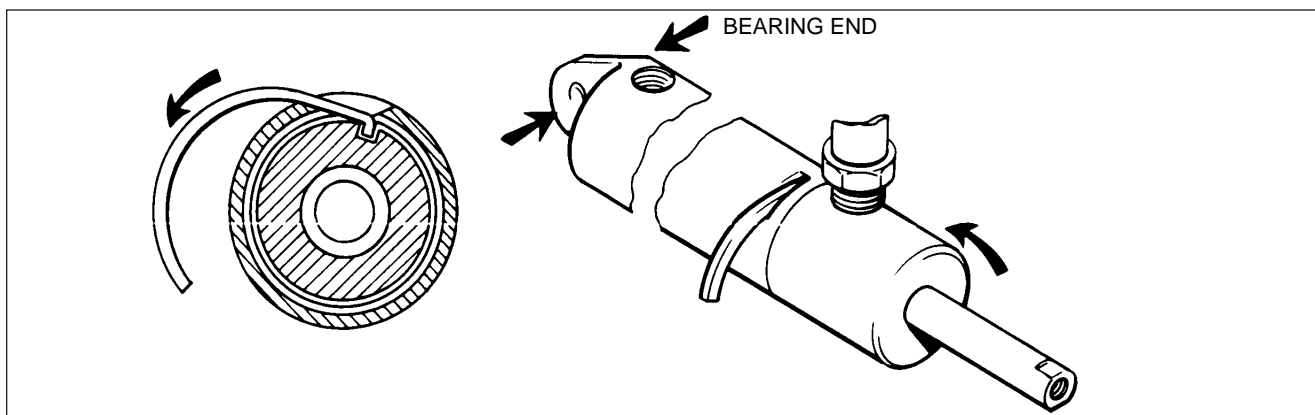

Figure 29-9. End Gland Locking Device
3. Install any 1/8-27 pipe fitting into the port on the end gland. This fitting is used for leverage only and need not be tight. (Refer to figure 29-9.)
4. Rotate end gland counterclockwise (with use of fitting) until end of retainer ring (Figure 29-9) shows in slot of cylinder body. Reverse rotation of gland (clockwise direction) allowing retainer ring to move out of slot. (It may be necessary to give the ring an assist in starting out of the slot. If so, insert a strong wire pick or other suitable tool in the slot to pry up the end of the retainer ring.)
3. Insert hook end of new lock ring (P/N 755 997) in slot cylinder body and slot in end gland. Rotate gland counterclockwise to completely wrap lock ring into assembly. (Figure 29-9)
4. Align port in end gland and cylinder body. (Figure 29-9)